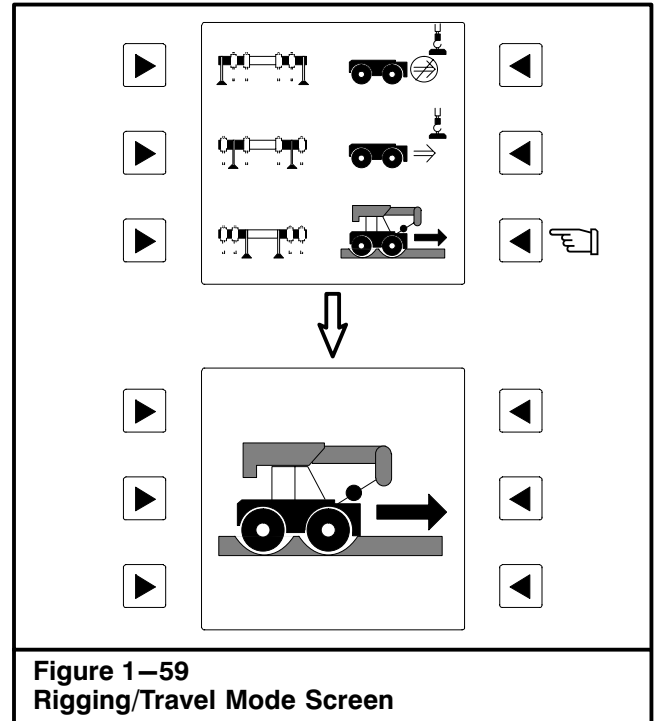

Figure 1-59
2. Press the corresponding configuration selection button to select RIGGING/TRAVEL MODE. Refer to Figure 1-59.